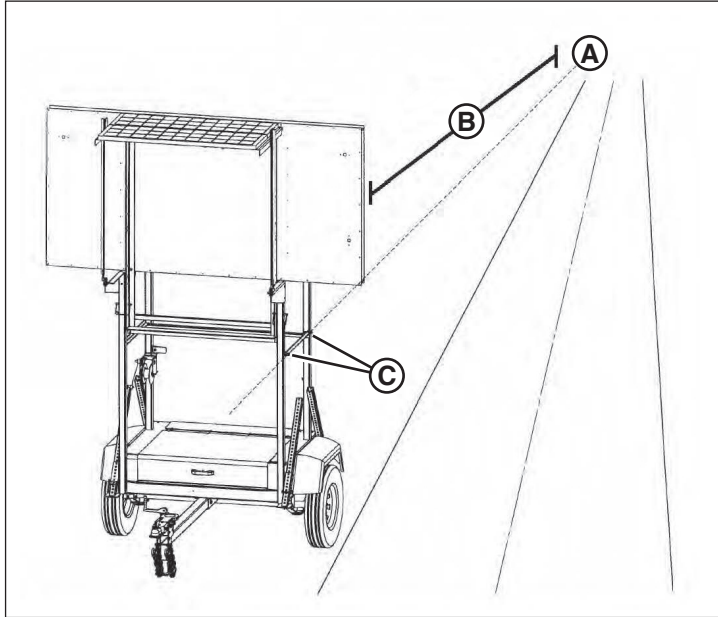

Figure 8
- Locate a point on the roadway (**A**, Figure 8) approximately 1 mile (1.6 km) (**B**) from the arrow board in approaching traffic.
- Sight through both eyelets (**C**, Figure 8) and determine where the point in approaching traffic is relative to the eyelets.